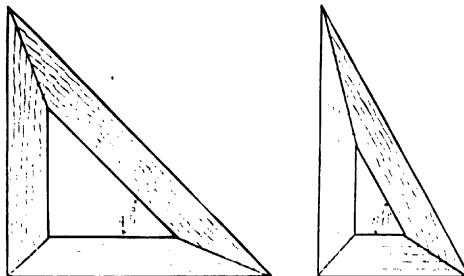

Fig. 4.
**Set-Squares.**—These are shown in Fig. 4. They are used for